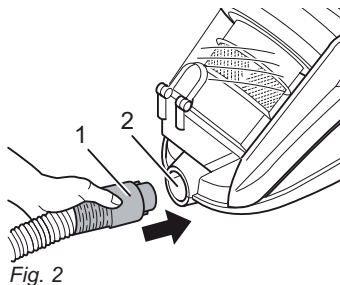

Fig. 2
1. Insert the suction-hose adapter (Fig. 2/1) into the suction-hose connection (Fig. 2/2) and lock it in place by turning clockwise to the stop.